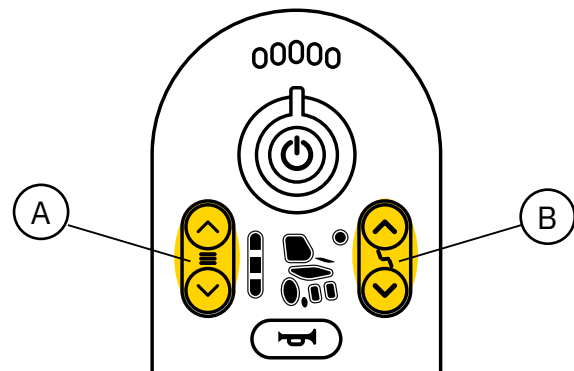

Figure 2.2. Choice of driving and seat functions on the LiNX REM211.
As standard, the device is equipped with a LiNX REM211 control unit. To drive the product, select the drive function using button (A) on the control unit, see Figure 2.2. During driving, the device is controlled by means of the control unit joystick. For electrical height adjustment, select the seat height adjustment function using button (B) on the control unit, see Figure 2.2. Use the control unit joystick to control electric height adjustment. The device can also be equipped with several electrical and manual seat functions. See section 5. Configurations and settings for detailed information about all the features and controls of the device.